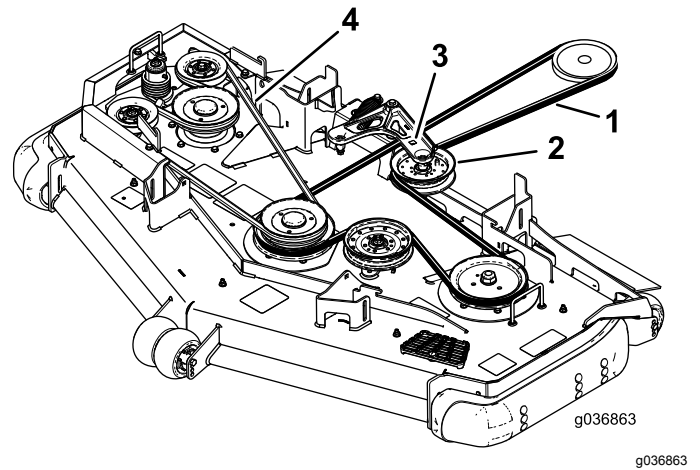

Figure 90
6. Use a ratchet in the square hole in the idler arm to remove tension on the idler spring (Figure 90).
8. Install the new belt around the mower pulleys and the clutch pulley under the engine (Figure 90).
9. Using the ratchet in the square hole, install the belt around the spring-loaded idler pulley (Figure 90).